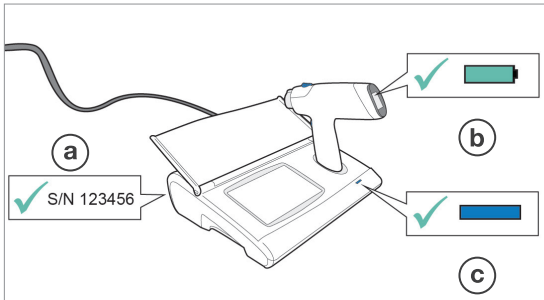

Figure 34 Base Station and Handset Checks
1. **Verify that the Base Station and Handset have been set up and powered according to Section 2 (see Figure 34).**